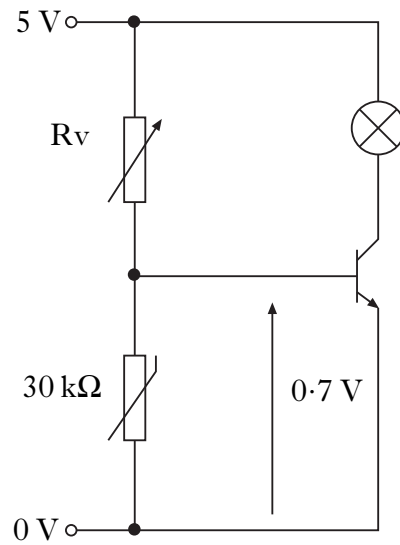

Figure Q6
6. Figure Q6 shows an electronic circuit which has been designed to turn on a warning lamp when the temperature drops below 0°C .
Calculate, for the conditions shown in Figure Q6: